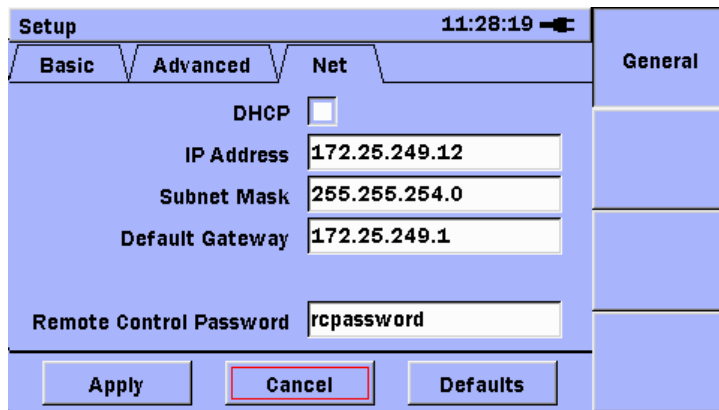

Figure B.1-5 Net Tab, DHCP Off
1. Highlight the DHCP check box. If the box is checked, press the **Set** key so that the box is cleared, as shown in Figure B.1-5.
If the IP address information (shown in Figure B.1-5) is changed while the USB-Ethernet adapter is plugged in to the MU909060 unit, then it is necessary to remove the USB-Ethernet adapter from the MU909060 and re-insert it, before the new IP address information will take affect.